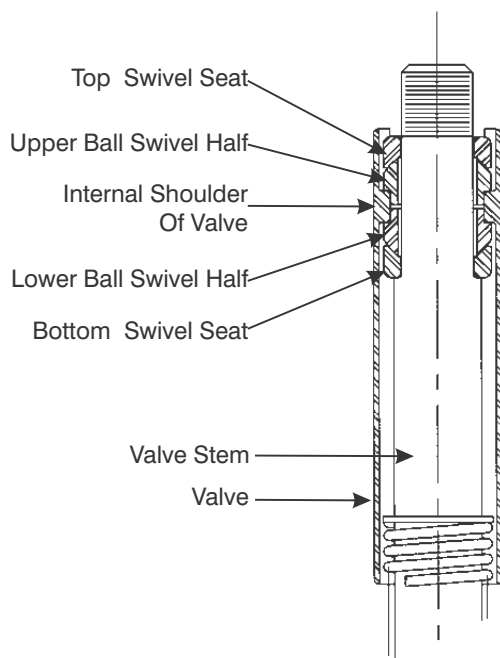

Figure 9-20. Upper Ball Swivel and Seat
10. Refer to Figure 9-20 and install the upper half of the Ball Swivel (6) onto the Valve Stem (11) inside the Valve (7). Slide the Swivel half into the Sleeve until it touches the internal shoulder of the Valve.
11. Install the top Swivel Seat (5) and the Spacer (4). Refer to Figures 9-20 and 9-21.